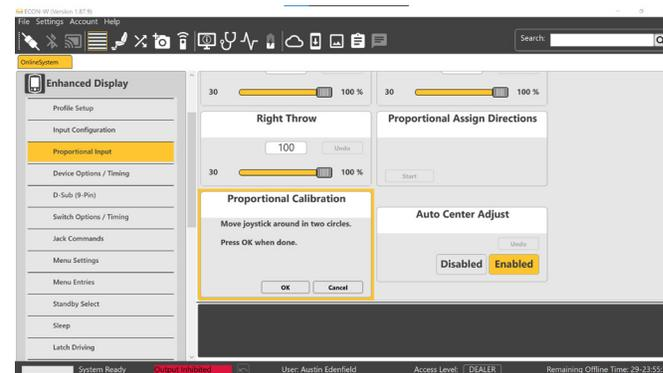

Figure 10. Proportional Calibration
11. Select Proportional Input under the Enhanced Display tab. Select Proportional Calibration and click OK. The power chair will go into Output Inhibited. **See Figure 10.** With the Vigo on the client's head, have the client move their head slowly in two circles. Once calibration is complete and successful, click OK. The Output Inhibited will automatically change back to System Ready. The power chair is ready for use.